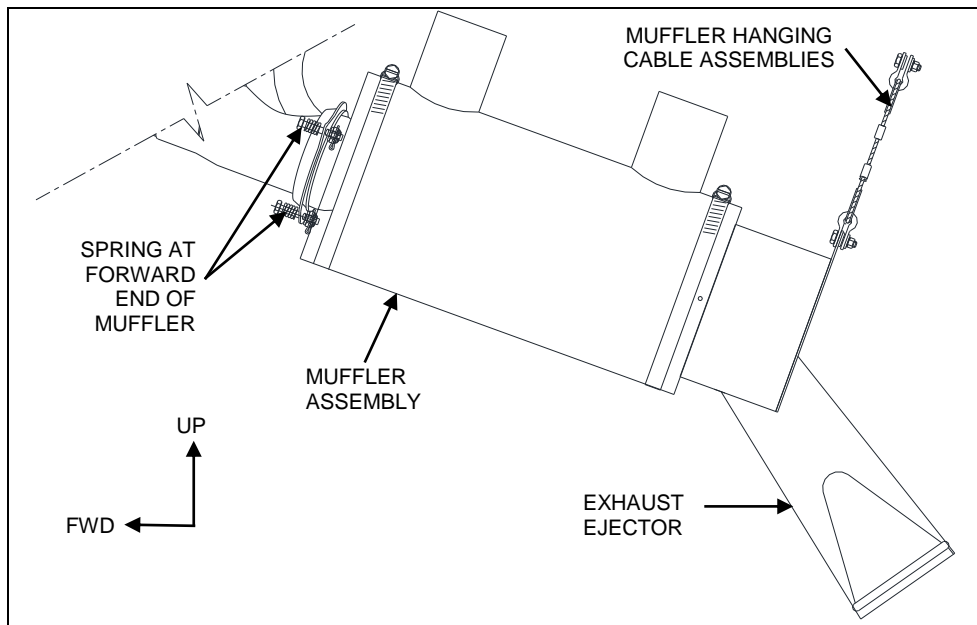

Figure 3 – Exhaust system components – side view.
4. Check for security and condition of the Muffler Hanging Cable Assemblies which attach to the rear end of the Muffler Assembly. See Figure 3.
5. On the forward end of the Muffler Assembly, three bolts are used to attach the Muffler Assembly to the Exhaust Manifold ball joint. Each bolt has a spring installed under the bolt head. Ensure the bolts/springs have sufficient tension so that resistance at the ball joint will be noticeably felt following minor translation/rotation of the Muffler Assembly. See Figure 3.